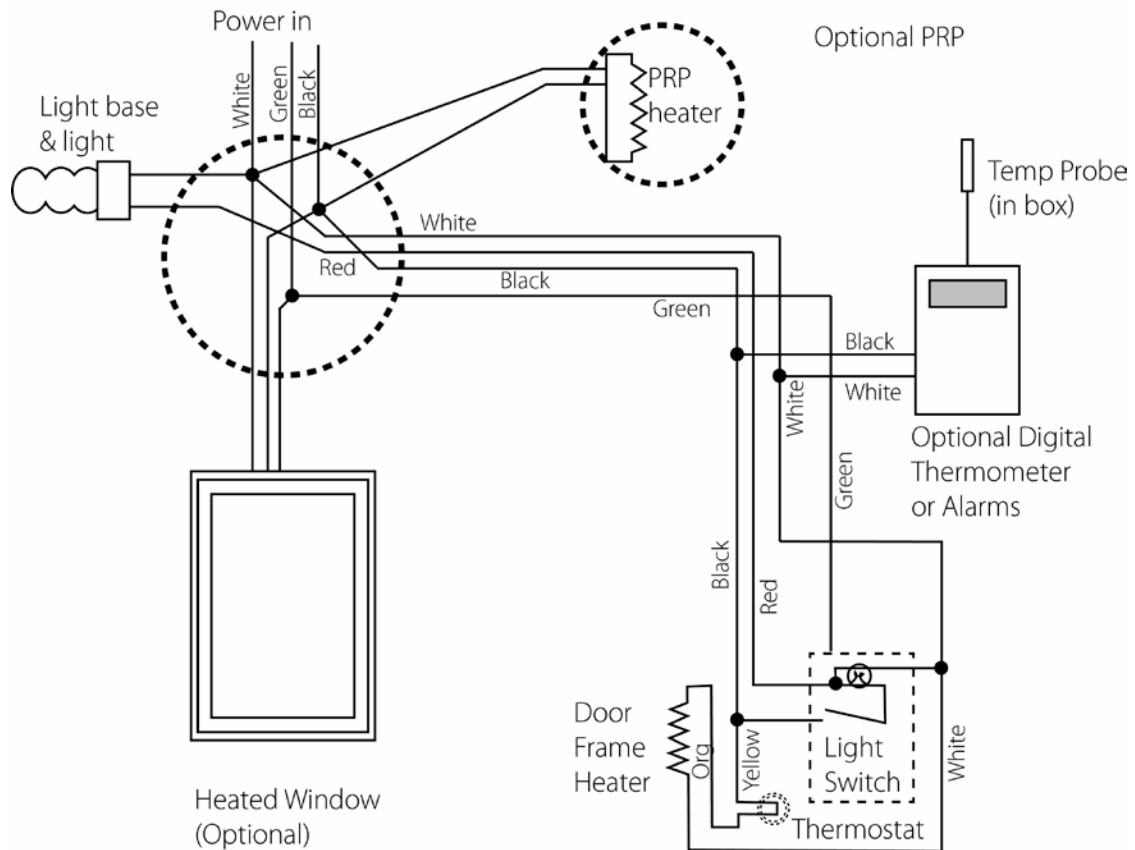

Figure 18
- B. Remove the short wire "pigtailes" and connect the service at the wire nuts, through the hole provided in the junction box. Refer to serial tag for proper electrical characteristics. Insure that the electrical service is properly grounded. See Figure 18. Remount the vapor-proof light assembly after all connections have been made. **Do not turn on power to door section until after the refrigeration system has been started.**
- B. Remove the short wire "pigtails" and connect the service at the wire nuts, through the hole provided in the junction box. Refer to serial tag for proper electrical characteristics. Insure that the electrical service is properly grounded. See Figure 18. Remount the vapor-proof light assembly after all connections have been made. **Do not turn on power to door section until after the refrigeration system has been started.**